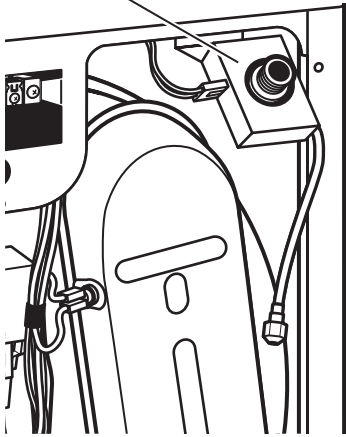

Figure 11 - Water System Components.
Activate Service Test Mode (see page 11). Skip to Step 3 in Service Test Mode Chart (see page 12). Verify that water is being sprayed into the drum. See figure 11.
- Check that the hose and wires are connected to the water valve assembly (see figure 11).